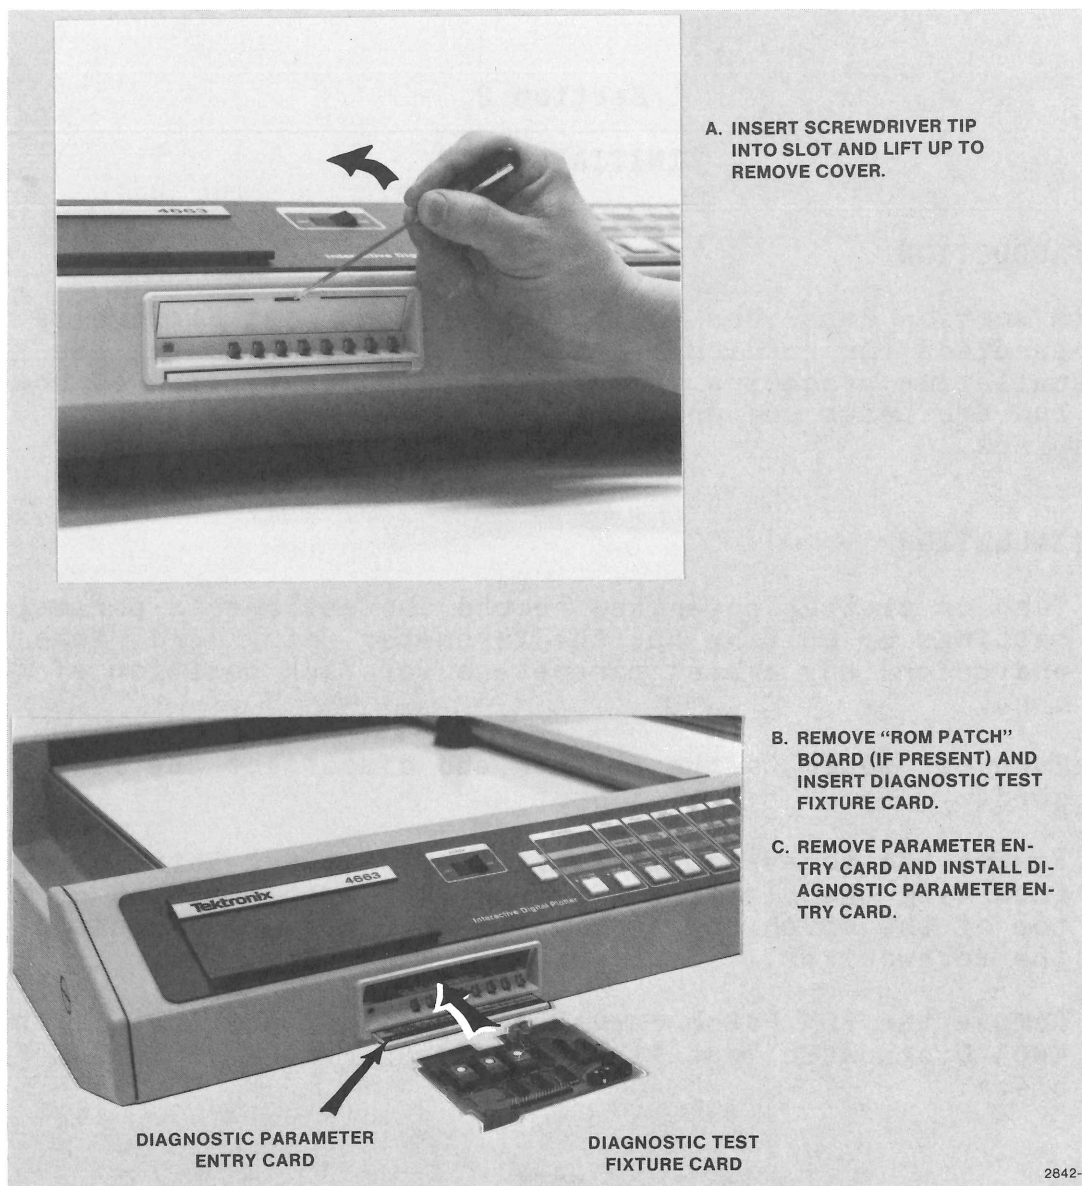

Figure 2-1. Diagnostic Test Fixture Installation.
3. Remove the access cover above the Parameter Entry card by inserting the blade of a screwdriver into the slot on the top of the cover and gently lifting up on the handle of the screwdriver. (See Figure 2-1.)
4. Remove the ROM Patch card B (if present) and install the 4663 Diagnostic Test Fixture card (Figure 2-1) in its place.